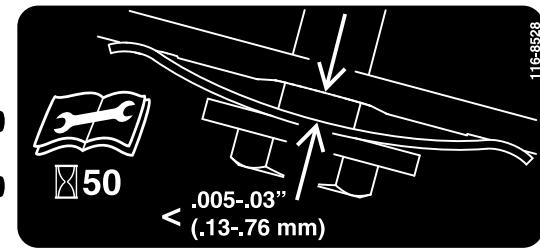

Figure 31
3. Hold a feeler gauge set between 0.13 and 0.76 mm (0.005 and 0.03 inches) against the wall and slide it down behind the belt tension spring; refer to Figure 31.